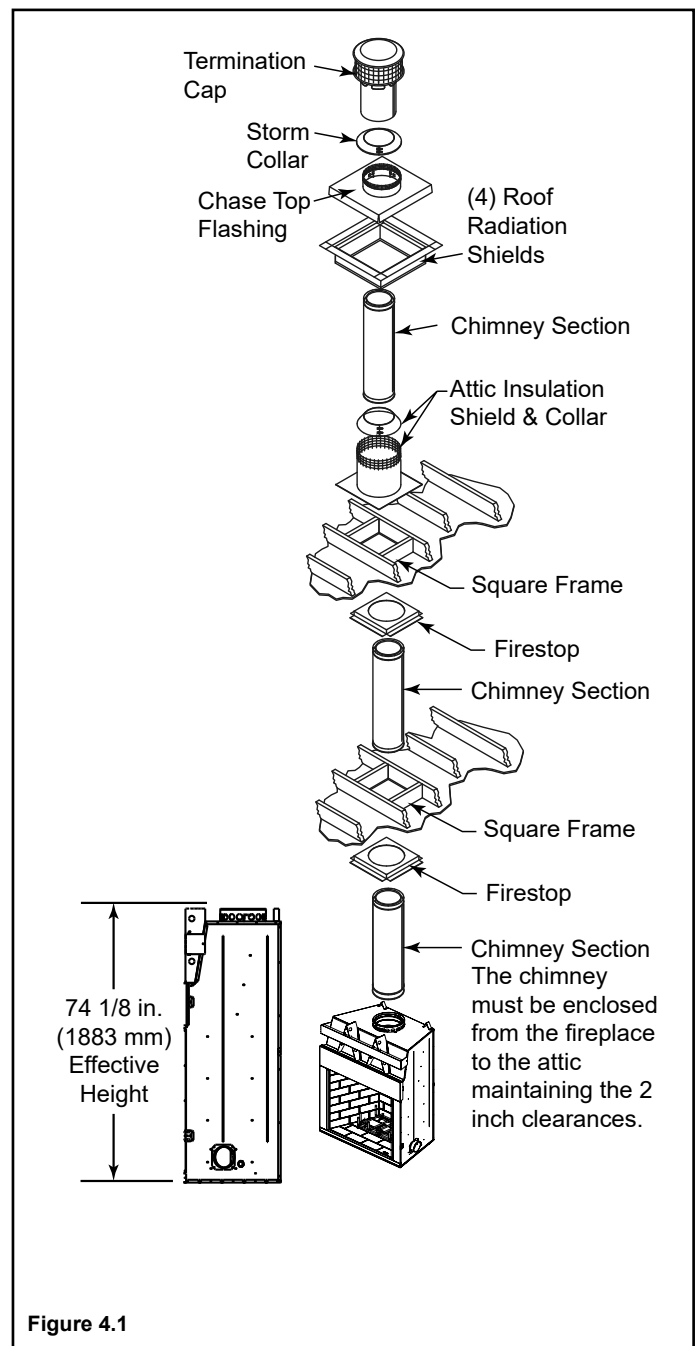

Figure 4.1
- Subtract the effective height of the fireplace assembly (see Figure 4.1) from the total vertical height to determine the overall height of the chimney installation.
- Create a schematic for your application similar to Figure 4.1 showing components required (referring to Table 4.1).
- Frame openings at each floor level above the fireplace (Figure 4.1). These openings are to hold the firestop and attic insulation shield.
A firestop is required on each floor penetration in multistory installation. Building Codes require a firestop at every floor/ceiling level, including where the chimney penetrates into the attic. Figure 4.1 shows a typical 2-story installation with an attic.